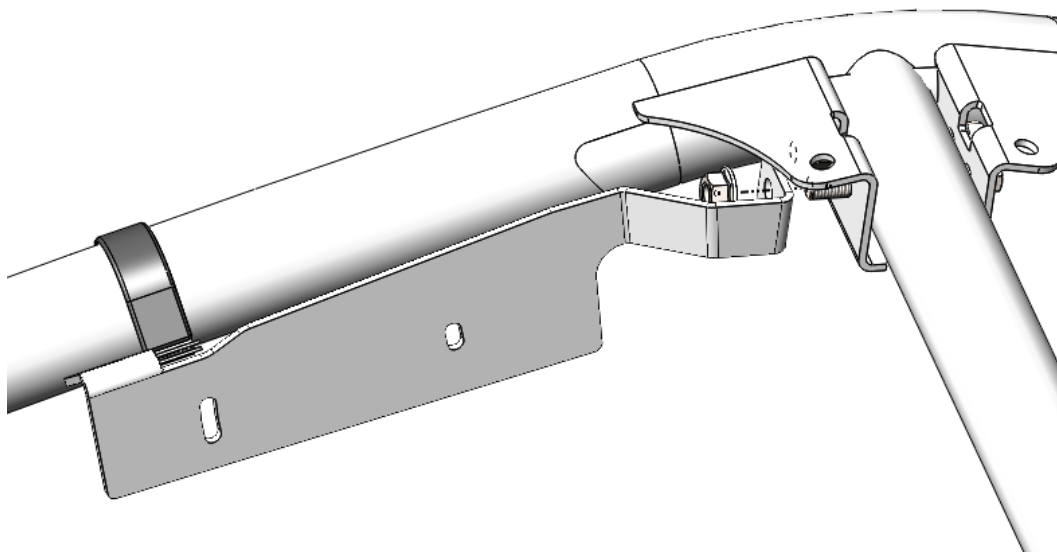

Figure 5: Mounting location of the *Audio Mini* bracket.
4. Place the driver's side bracket on the driver's side inner cross member bolt. Use the factory nut from Step 2 to loosely tighten the bracket but allow for adjustment. It will be fully secured in the following steps. Verify correct orientation of the mounting bracket. See Figure 5. Note: Driver side shown. (Passenger side similar)